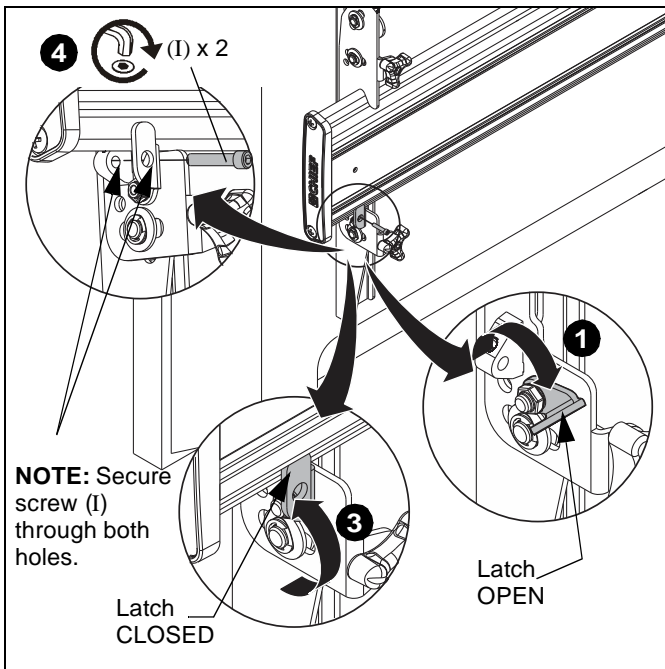

Figure 7
1. Ensure that the latch mechanisms on interface brackets (J and K) are already raised to the OPEN position. (See Figure 7)
2. While supporting both sides of display, lower display onto mounting rail, hooking top of interface brackets onto top of mounting rail. (See Figure 7)
3. Raise latch on interface bracket and close into place against mounting rail. (See Figure 7)
4. Fasten latch into place using one 1/4-20 x 1-1/4" socket head screw (I). (See Figure 7)
**NOTE:** Socket head screws (I) must engage through both holes to be fully secured. (See Figure 7)